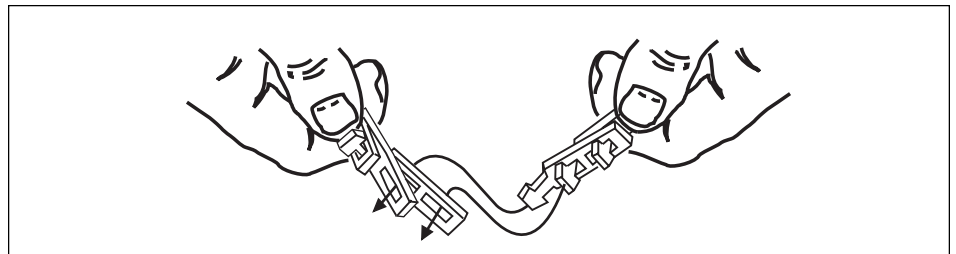

Figure 15. Adjust belt Length
2. Once the proper belt tension is achieved on the small flat belt for the ball roller shaft assembly, adjust the linkable belt for the buffing wheel by removing or adding a link to increase or decrease tension. Refer to *Figure 15*.